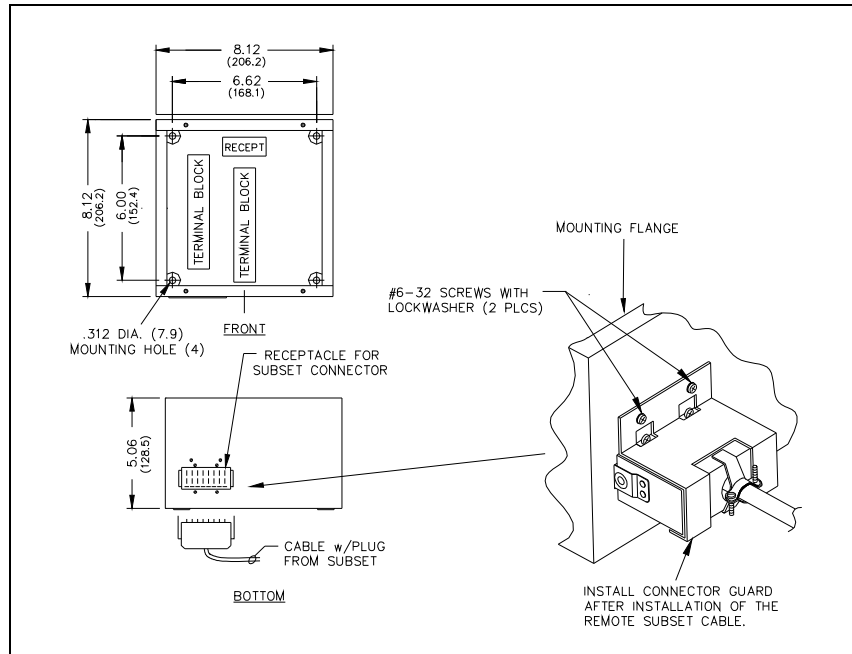

Figure 1. Outline and Connection Detail
There are four 0.312-inch diameter mounting holes in the corners of the amplifier enclosure. See Figure 1 for hole pattern dimensions. When mounting the enclosure, use caution to avoid damaging the terminal blocks inside. Install the connector guard over the remote cable plug using the screws provided as shown in Figure 1 to comply with NRTL requirements.
2. Plug the subset connector into the J2 receptacle located at the bottom of the enclosure. Secure the connector with the connector guard and screws provided. See Figure 1.